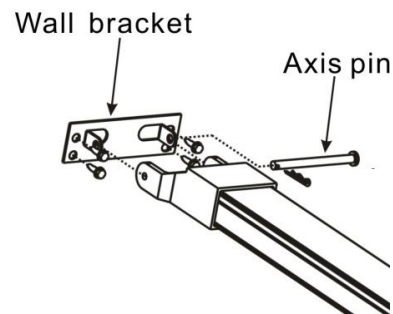

Fig.5
Before attaching the U brackets (E) (Fig.4) screw an inverted nut (6mm) (D) on each stud then position the brackets (E) on the studs and secure them in-place using a second 6mm-nut and then lock the brackets to the rail by tightening the inverted lock nuts (D). Connect the opener edge (G) to the hanging bracket (F). Connect the aluminum track to the wall bracket (Fig.5). Check measurements for drilling insert and lock the brackets F and fix the opener to the ceiling with the correct fixings (Fig.3). Cut off any hanging brackets excess.